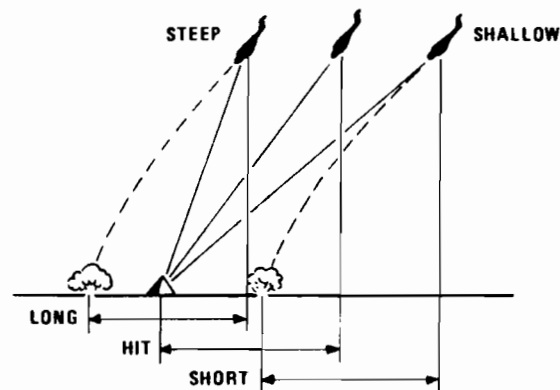

Figure 6-10
a. Dive Angle. If release is accomplished at a steeper than desired dive angle, a long impact will result. This is caused by a reduction in the angle of attack, resulting in more effective sight depression. The piper will arrive at the target later than planned. Even if effective depression remains the same, releasing at the preplanned altitude with a steeper than planned dive angle will result in reduced slant and horizontal range, causing a long impact. The reverse is true in a shallow dive: Depression is effectively decreased, an early sight picture is received, and a short impact results (see Figure 6-10).